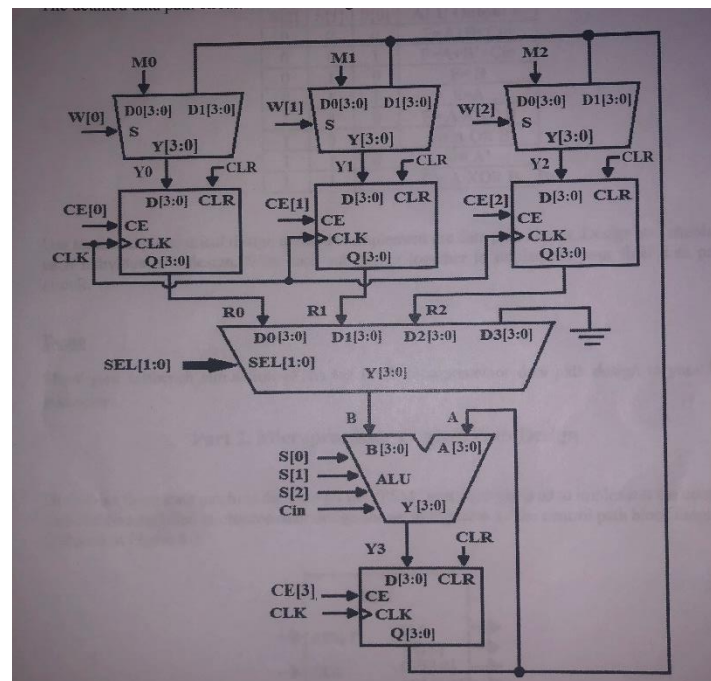

Figure 1. Simplified Microprocessor Data Path Circuit Schematic
A microprocessor involves the functions of a central processing unit on a single integrated circuit (IC). It is multipurpose, clock driven, register based, digital integrated circuit that accepts binary data as its input, and process it according to instructions stored in the memory, in order to provide an output. Microprocessor have a design that incorporates both combinational and sequential digital logic. For this lab we were tasked to design a simplified 4-bit microprocessor. Where it would take in six inputs; M0, M1, M2, SW1, and CLK. The design would implement the following operation:  $R2 = M0 + (\text{not } M1) + \text{Cin}$ . In order to make this possible we need to create the Data Path as seen in Figure 1, and a Finite State Machine (FSM) that will go through the steps to reach the operation.